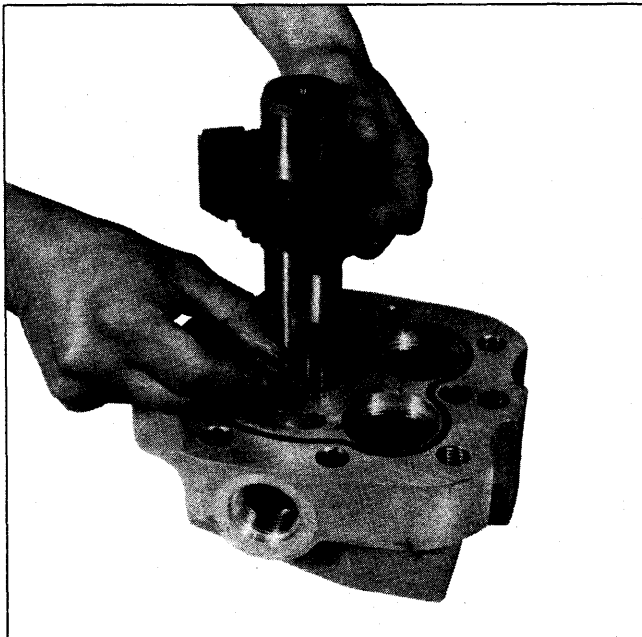

FIGURE 9
11.) Lift the rotor up, which will expose the drive key. Remove the drive key. (Fig. 9.)